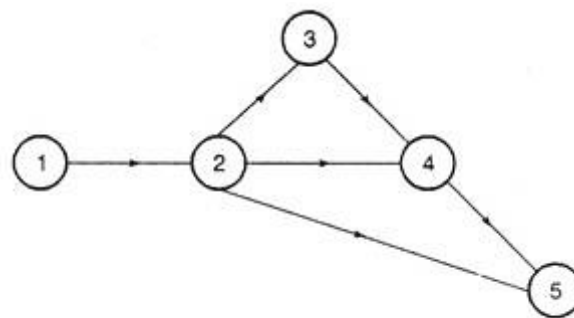

Fig. 29.6.
19. For a network shown in Fig. 29.6, Normal time, Crash time, Normal cost and Crash costs are given in the table. Contract the network by crashing it to optimum value and calculate the optimum project cost. Indirect cost is given as Rs. 100 per day.